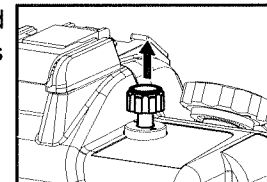

Fig.10
8. Fit the rear case with the power switch extended onto the front case and close the locking latches (Fig.10).